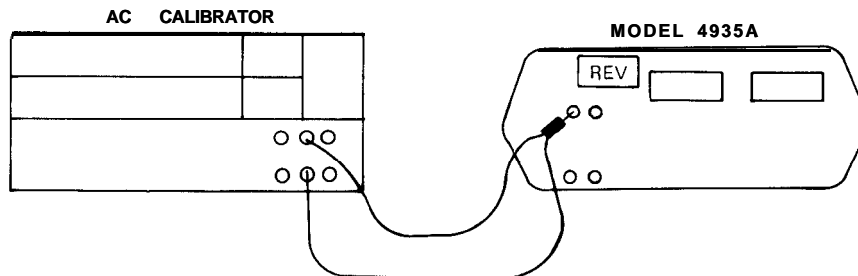

Figure 4-5. Filter Tests
1. Connect equipment as shown in Figure 4-5.